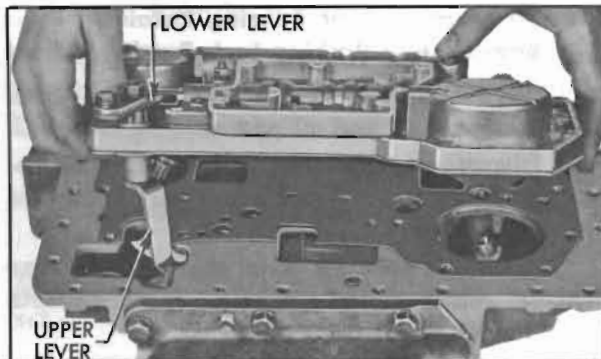

Figure 5-31—Removing Valve and Servo Body Assembly
8. Lightly pry upward on the assembly to free the gasket between servo body and transmission case. Push shift control valve and lower operating lever inward to align the lower lever with opening in transmission case, then remove the assembly. See figure 5-31. **CAUTION:** *Do not grasp slotted end of control valve because sharp edges may cut hand.* Remove gasket and check for indication of oil leakage.